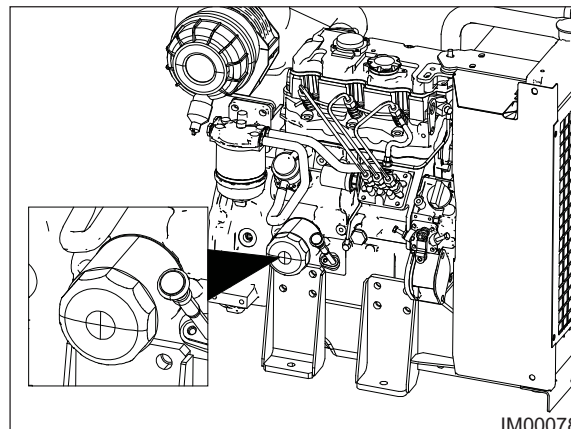

Fig: 11.14 - Oil Filter
3. Remove the oil filter (Fig: 11.14) with a 1U-8760 chain wrench.